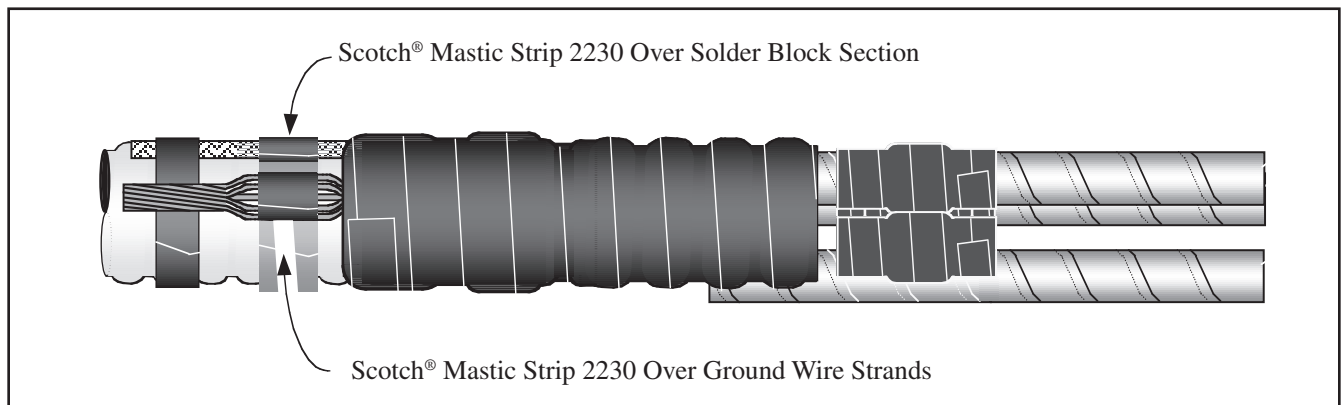

Figure 10
3.13 Apply one strip of Scotch® Mastic Strip 2230 around ground wire strands (Figure 10). Apply one mastic seal strip around solder block section of ground braid tail. Align seal strip wraps with previously applied mastic band around cable jacket.